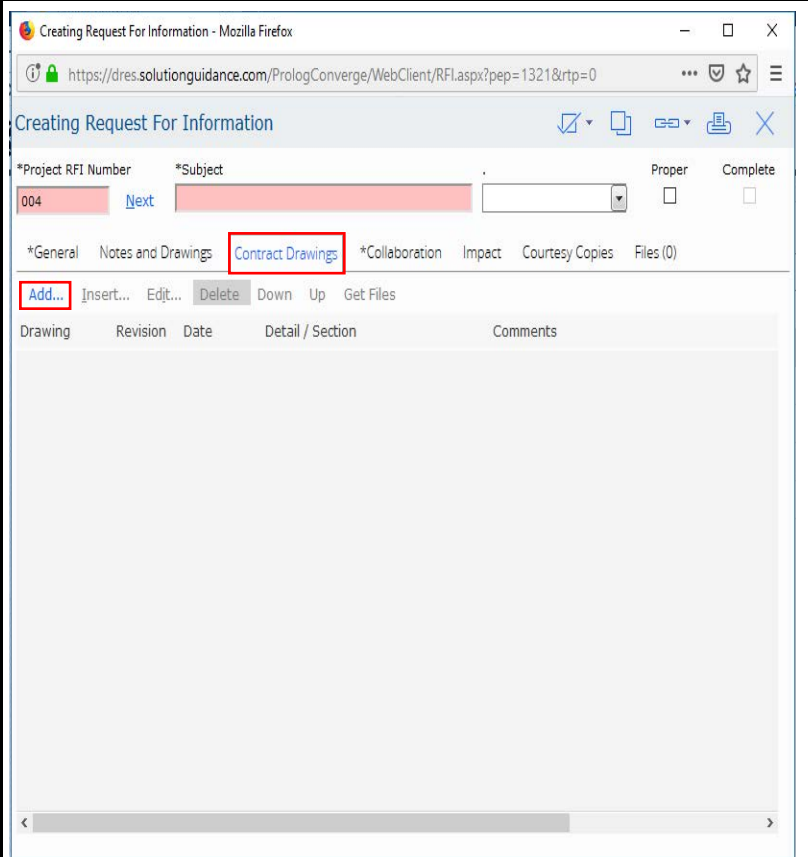

Figure 9
Step 7 - To search by author, filtering by display name may be accomplished using the field highlighted in Figure 9. Select the search icon once the display name field has been populated. Remove the check from "Limit To Project" field. The contacts will appear below. To select a contact, simply double-click (the company will auto fill in by selecting a contact).